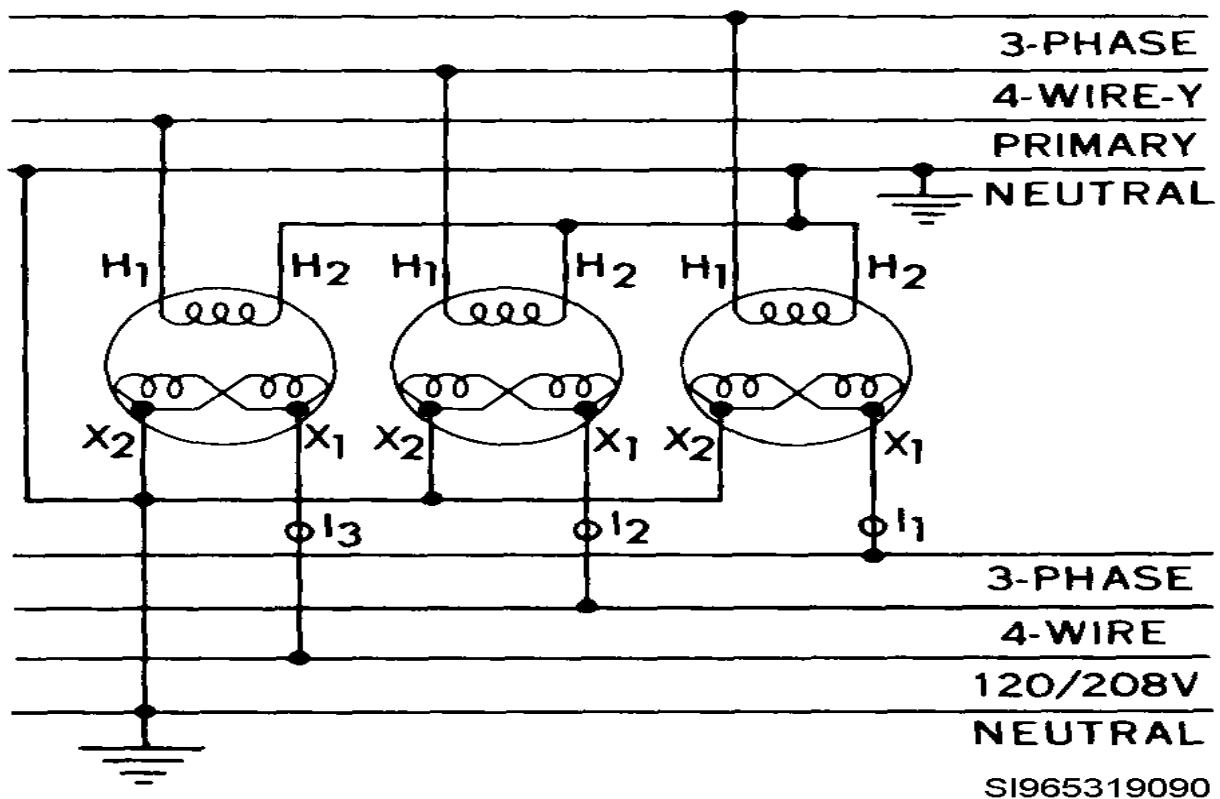

Figure 7, Wye/Wye For Lighting And Power
**Step 12: Primary Connection for wye / wye as seen in Figure 7 above.**
**Step 13: Secondary Connection for wye / wye as seen in Figure 7 above.**